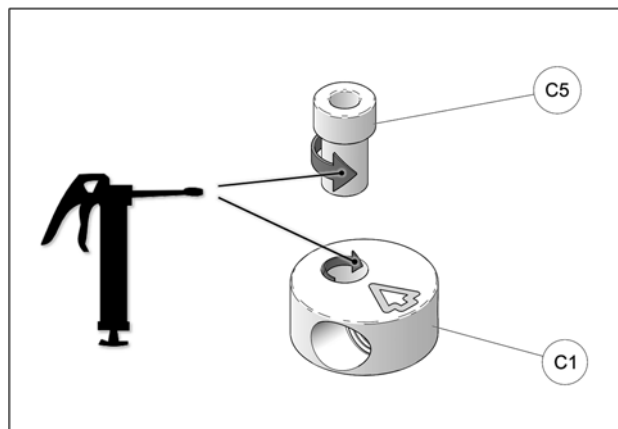

Fig. 24
12. Apply grease evenly all around step spacer bushing (**C5**) and in hole of aluminum disk (**C1**) when assembling these parts together. See Fig. 24